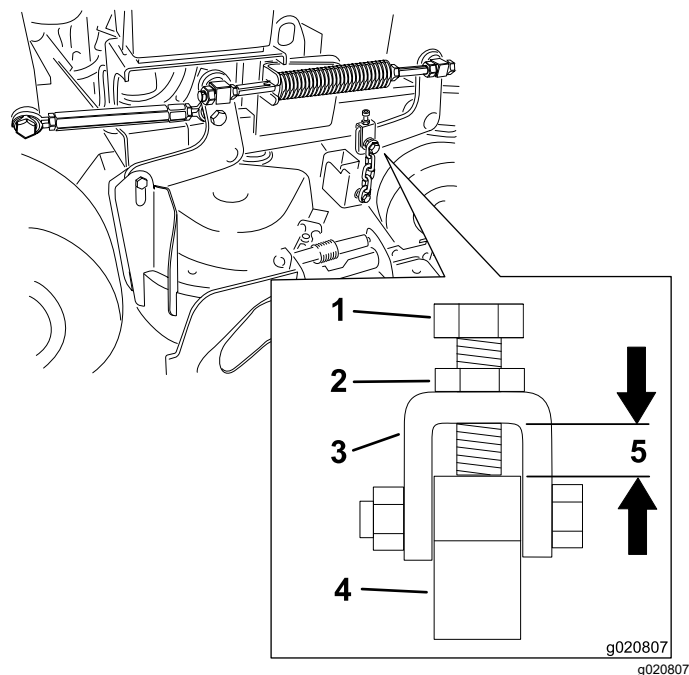

Figure 79
Note: This distance needs to be 11 mm (7/16 inch) as shown in Figure 79.
7. Loosen the jam nut and adjust the adjustment bolt to achieve the correct distance as shown in Figure 79.